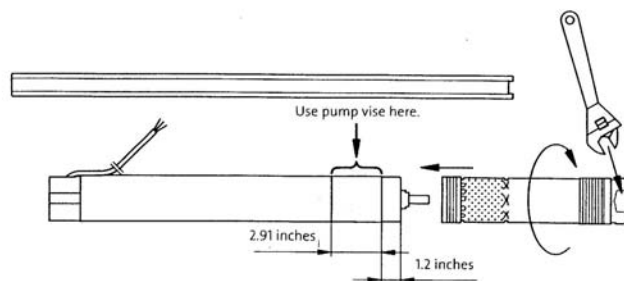

Figure 12
1. Place the motor horizontally in a vice and tighten it, see Figure 12.
3. Screw the pump end on the motor. A spanner may be used on the clamping faces of the pump part, see Figure 12.